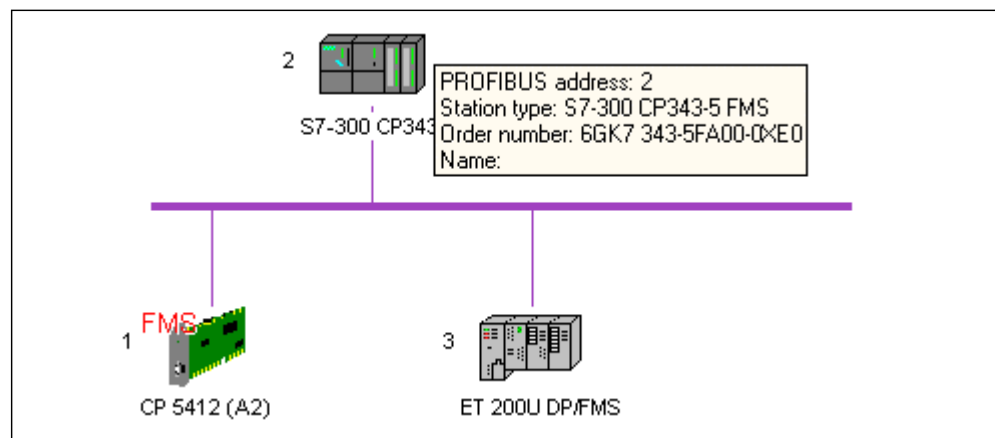

Figure 5-2 Sample structure of an FMS configuration
1. Double-click the "FMS master: CP 5412 (A2)" icon in the window for the graphical bus configuration (see Figure 5-2).
1. Double-click the "S7-300 CP343-5 FMS" icon in the window for the graphical bus configuration (see Figure 5-2).
1. Double-click the icon for the FMS master "CP 5412 (A2)" in the window for the graphical bus configuration (see Figure 5-2).